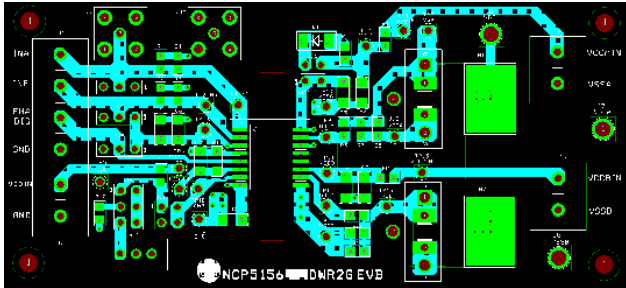

**Figure 66. Recommended Layer Stack**
- To ensure isolation performance between the primary and secondary side, any PCB traces or copper should be not placed under the driver device as shown in Figure 66. A PCB cutout is recommended to avoid contamination that may impair the isolation performance of NCV51561.